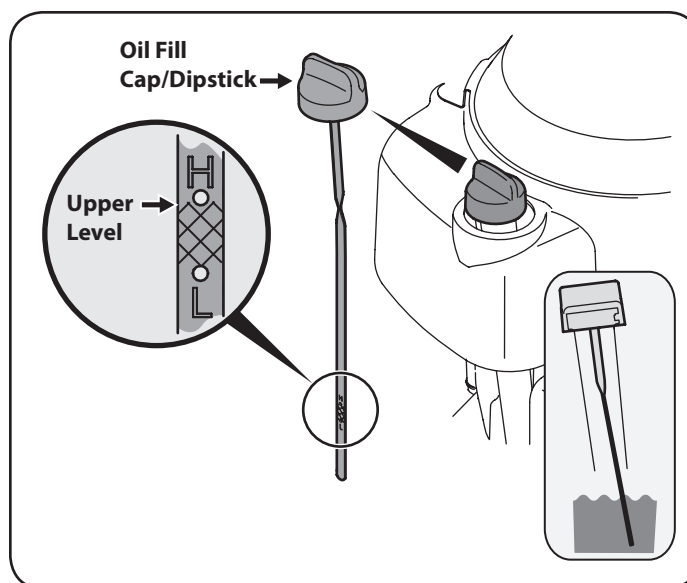

Figure 15
- Insert the dipstick into the oil filler neck. Turn the dipstick 1/4 turn into the locked position to fully seat. See Figure 15.
- If the level is low, slowly add oil until the reading is at the upper level on the dipstick. See Figure 15 inset.